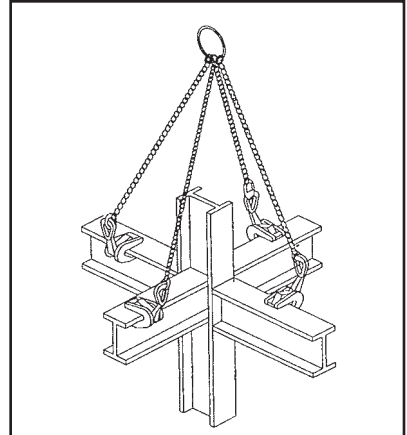

Figure 11
12. **DO** use as many clamps as necessary to balance the load (Fig. 11). Do not try to lift unbalanced loads.
14. **DO NOT** exceed the combined WLL of two clamps when using two or more clamps (Fig. 11).